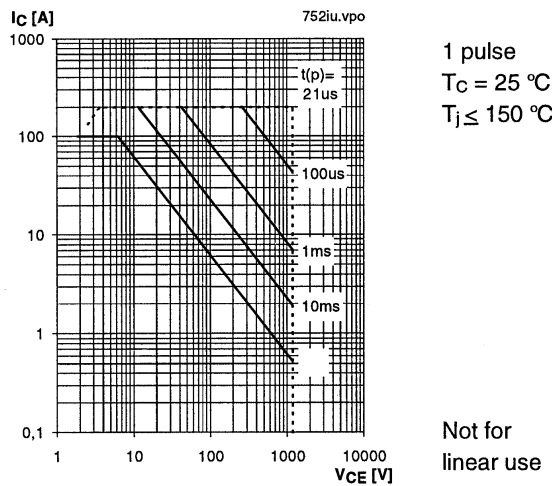

Figure 2.14 Maximum safe operating area $I_C = f(V_{\text{CE}})$ during pulse operation (SOA)
- maximum power dissipation or chip temperature (diagonal limits) see Figure 2.14;
Figure 2.14 shows the maximum curve $I_C = f(V_{CE})$ during switching and on-state for different pulse durations t_p at a double logarithmic scale.